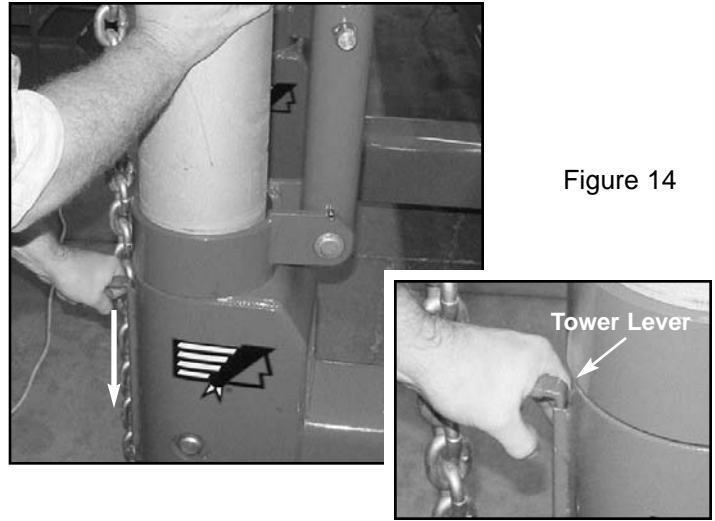
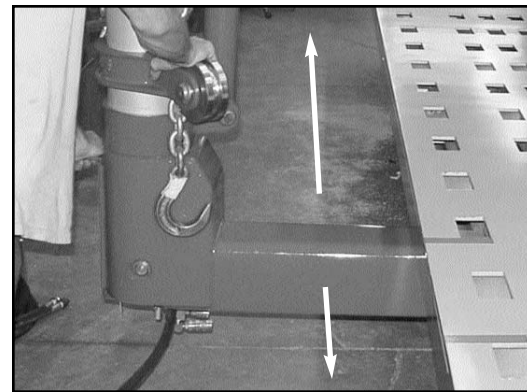

Figure 14
Figure 15
3. Push tower lever down (see Figure 14 and its inset) and move Tower to appropriate pulling location. The lever disengages the tower carriage pin on underside of mainframe allowing tower movement to another location. (See Figure 15.)